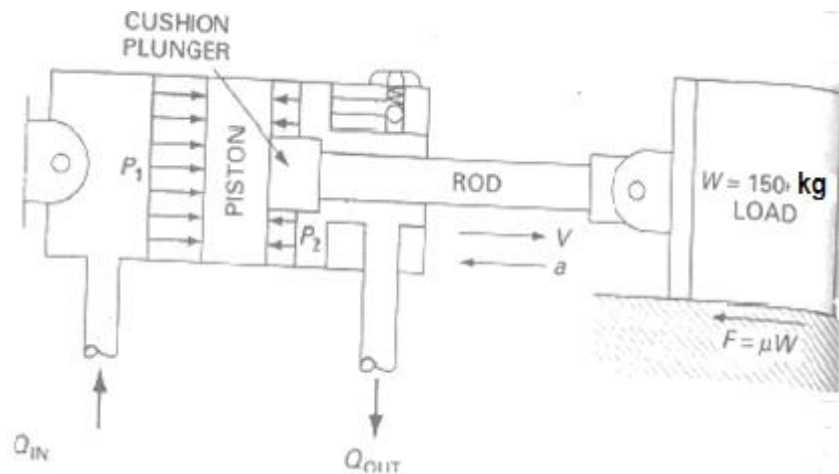

Fig 2
- 2A.** A hydraulic cylinder is used as the actuator of material handling robot . The pump delivers oil at the rate of 10L/min into the blank end of 75mm hydraulic cylinder as shown in fig 2. The piston contains 20mm dia cushion plunger which is 15 mm long, therefore the piston decelerates over the distance of 15mm towards the end of the extension stroke. The robot is required to push/pull a 150 kg load on the surface with co efficient of friction (μ)= 0.12.The maximum pressure(P1) at the blank end of the cylinder is to be restricted at 100N/mm². while the cushion is decelerating the piston **(04)**